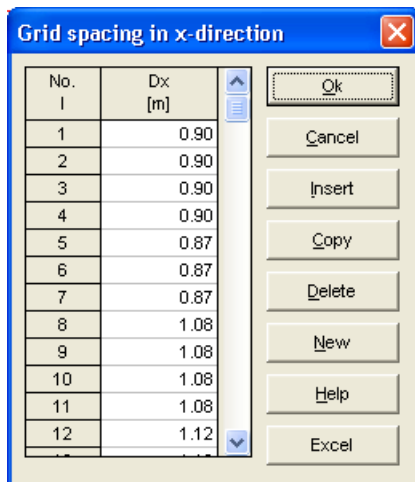

Figure 1-13 "Grid spacing in x-direction" list box
- Click the button "Grid spacing". "Grid spacing in x -direction" list box appears, Figure 1-13. In this list box the spacing width can be entered individually for every space